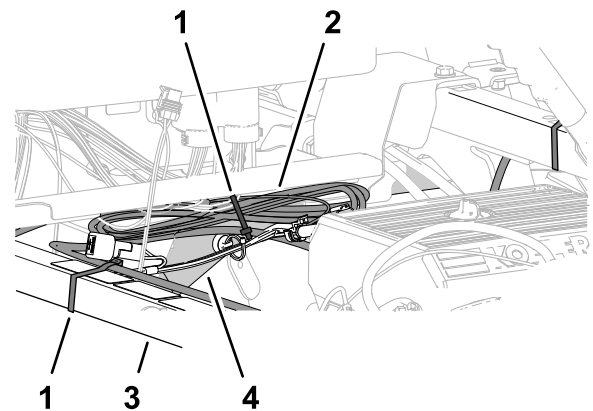

Figure 213
- Gather the excess length of the data harness against the right, upper-frame tube (Figure 213).
- Align the data harness to the shock-support tube, and secure the harness to the tube with a cable tie (Figure 213).
- Align the data-harness bundle to the right, upper-frame tube, and secure the harness bundle to the frame tube with a cable tie (Figure 213).